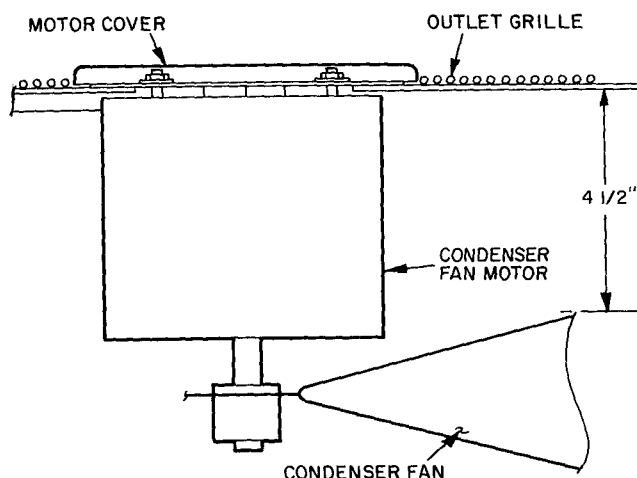

**Fig. 16 — Condenser Air Fan Adjustment**
**Condenser Air Fan Adjustment** (Fig. 16) — Shut off unit power supply. Remove condenser fan assembly (grille, motor, motor cover and fan) and loosen fan hub setscrews. Adjust fan height as shown in Fig. 16. Tighten setscrews and replace condenser fan assembly.